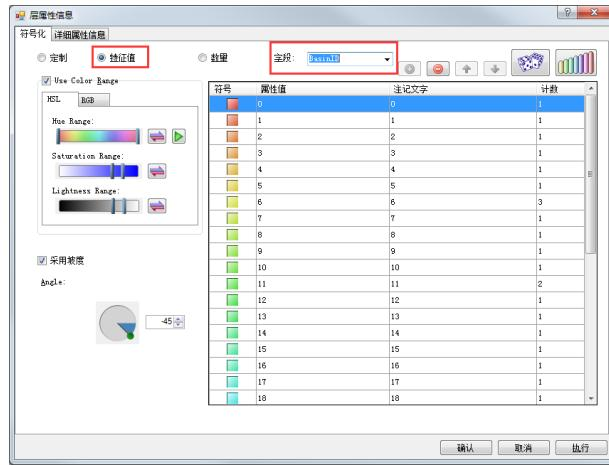

Figure 4-7. Layer Properties Dialog
7. Set layer display style as indicated by Figure 4-7.